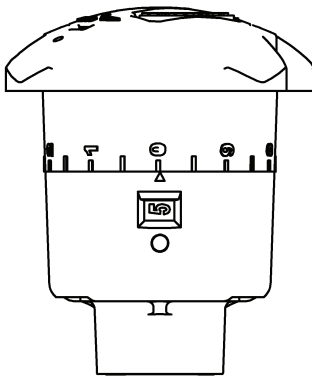

FIG. 12
- 6 FTV setting of 5.0 indicates that the valve is fully opened. In some cases, the valve may open as much as 5.3 turns, due to the depth of the stem threads. This is not a problem with the valve; however, the performance curves for these FTVs are calibrated only to 5.0 turns. (FIG. 12)